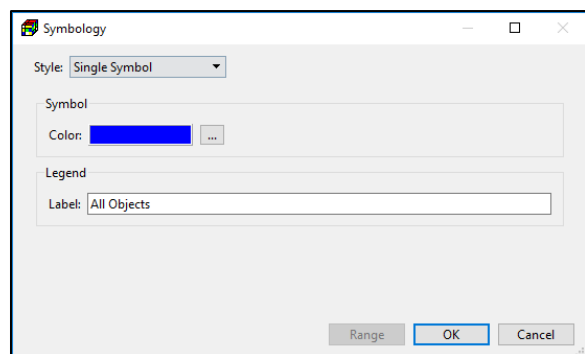

Figure 10. The Symbology dialog box - Single Symbol
1. **Single Symbol (Figure 10):** This is the default style and the easiest way to change the color of a shapefile.